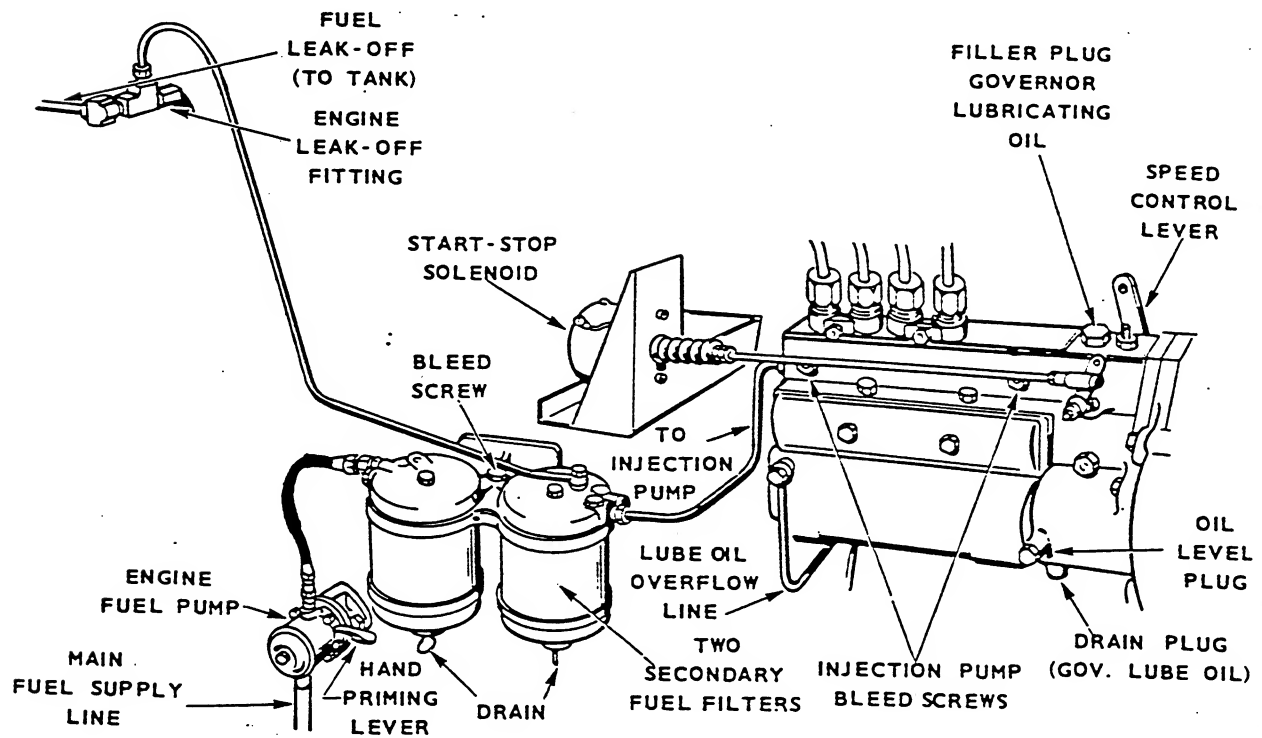

FIGURE 10. FUEL SYSTEM
3. **Modification of main tank.** Ideally, two separate lines should be run for each engine; one supply and one injector return, the return to enter the tank as far as possible from the supply line. Figure 10 shows typical methods of installing two fuel supply lines in one tank. The lines to the main propulsion engine and the generator set engine should not be connected together. The marine electric set fuel transfer pump has neither the power nor the capacity to overcome the suction of the propulsion pump, therefore erratic operation is possible.
Fuel inlet is to the transfer pump and is threaded for 3/8-inch pipe. Injector's return line requires a 1/8-inch low pressure hose connection. Refer to Figure 10 for fuel system.